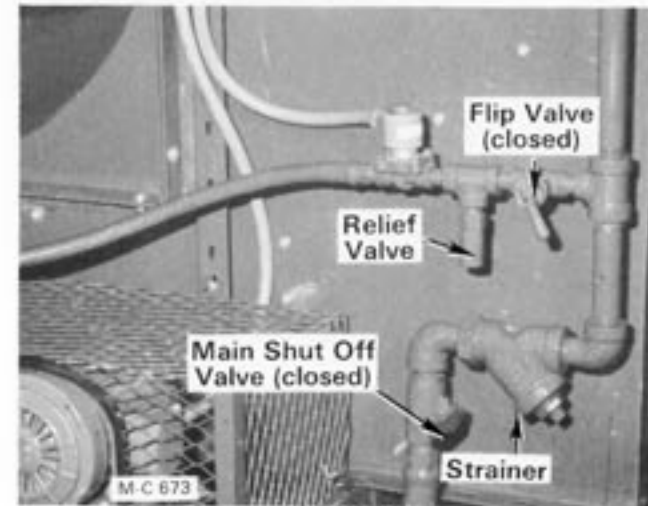

Figure 13
2. **LP Gas** - Close the liquid line flip valve for each burner (handle down), see Figure 13.
1. **LP Gas** - Open the supply valve at the tank, the hand valve at the LP Gas inlet hose and open (lift up) the liquid line flip valve on each burner, see Figure 13. The flip valve is open when the handle is 90° to the piping.